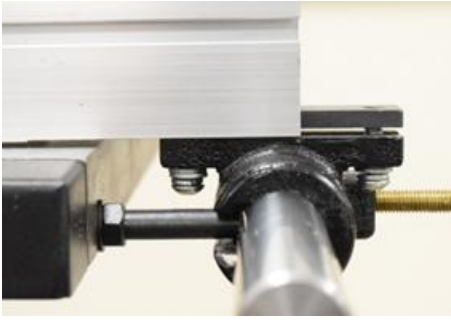
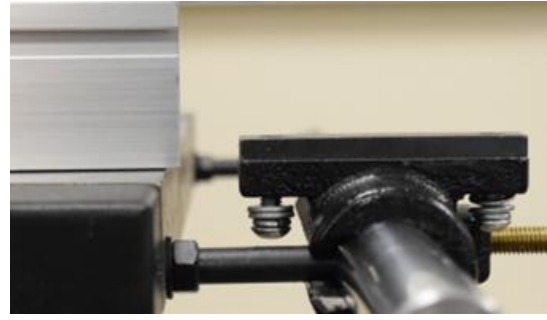

Fig. 33
Fig. 34
2. Slide the fence off of the plate, removing it from the carrier knuckle. (Fig.33, Fig.34)